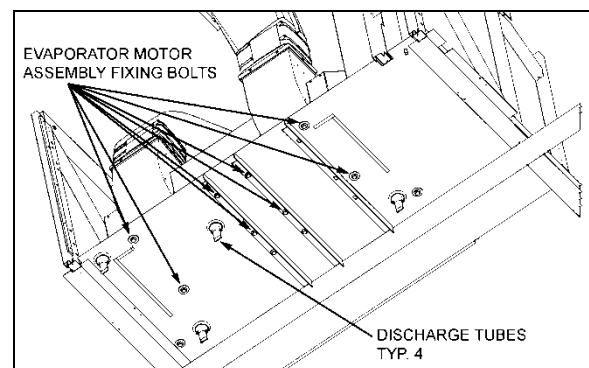

FIGURE 36: EVAPORATOR MOTOR BOLTS 22315
7. From under the vehicle, remove the eight bolts fixing the double blower fan unit base. Remove the complete unit from the evaporator compartment (Figure 36).